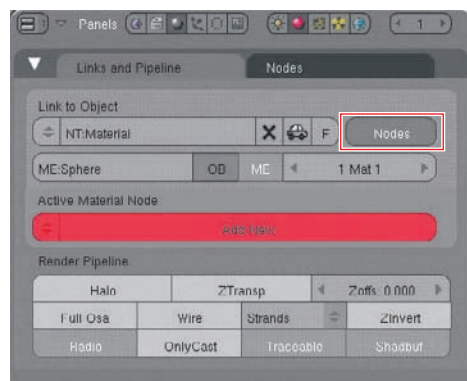
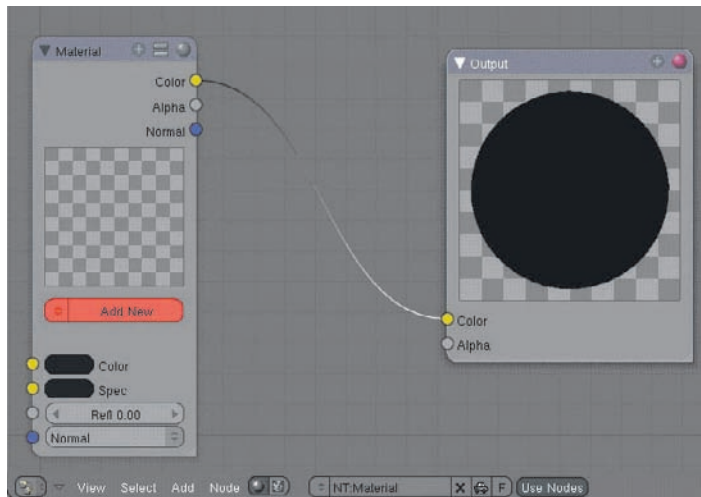

Figure 1.5 Activating Nodes on Material
Figure 1.6 Nodes window
2. Select Nodes in the Links And Pipeline tab of Material, as shown in Figure 1.5. This makes Material a node material. If you are not used to working with node materials, it is easy to get confused, so it helps to keep track of which materials need to be node materials and which materials do not need to be. In most cases, materials that you use as inputs into node materials should not be node materials themselves. You can always tell which materials are node based and which are the basic kind in the material list, because each node material has an *N* before its name. Open a nodes window now and you will see the setup in Figure 1.6. What you're looking at are two nodes: an Input material node and an Output node. The Output node represents the final appearance that Material will take on. At present, the Input node is not linked to any material, as indicated by the red Add New button. Click Add New to create a new material node. The node's header bar will now read MatNode.